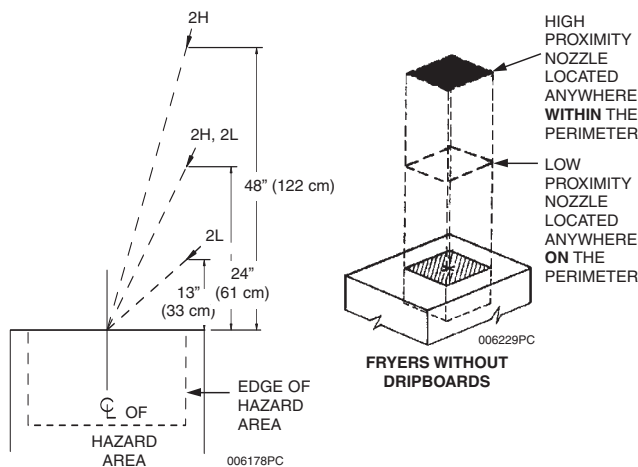

Figure 3-3.
The Model 2H nozzle, Part No. 551028, is used for high proximity fryer protection. This nozzle is a two (2) flow nozzle. The nozzle must be located **anywhere within the perimeter** of the hazard area, 24 in. to 48 in. (61 to 122 cm) above the cooking surface of the appliance and aimed at the center of the cooking area. See **Figure 3-3**.
► The Model 2L nozzle is used for low proximity fryer protection. This nozzle is a two (2) flow nozzle. The nozzle must be located **anywhere on the perimeter** of the hazard area, 13 in. to 24 in. (33 to 61 cm) above the cooking surface of the appliance and aimed at the center of the cooking area. See **Figure 3-3**.